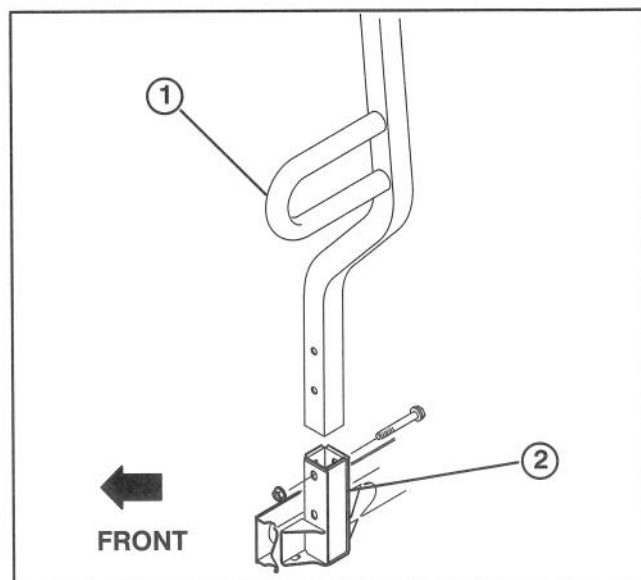

Figure 10
INSTALL ROPS (Fig. 10)
1. Insert each side of ROPS into mounting bracket on each side of vehicle frame, positioning ROPS as shown in figure 10.
2. Secure each side of ROPS to mounting brackets with (2) 1/2–13 x 3" lg. capscrews and locknuts.